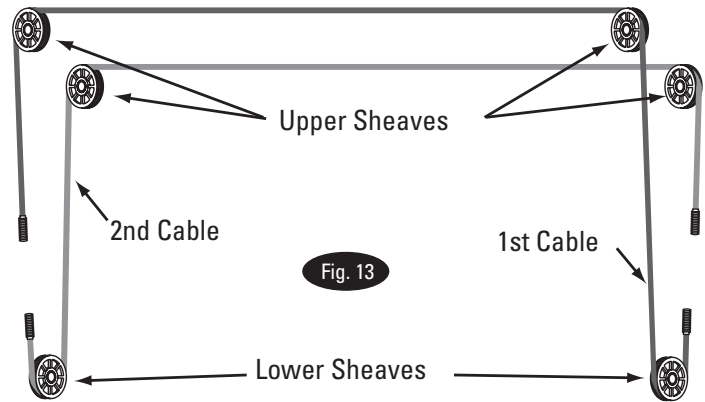
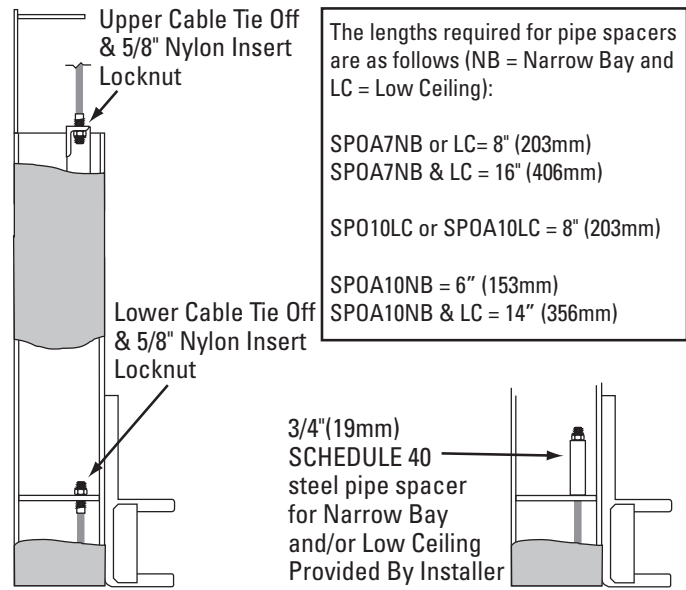

Fig. 13
Fig. 15
- Refer to Fig. 13 for the general cable arrangement. First, run a cable end up through the small hole in the lower tie-off plate. Fig. 15.
- Pull the cable back down, Fig. 15.
- E) Run cable around the lower sheave, then up and around overhead sheave and across and down to the opposite carriage, Fig. 13. Install sheave cover, Fig. 14.
- F) Fasten the cable end to the carriage upper tie-off bracket, Fig. 15. Tighten the locknut enough to apply light tension to the cable.